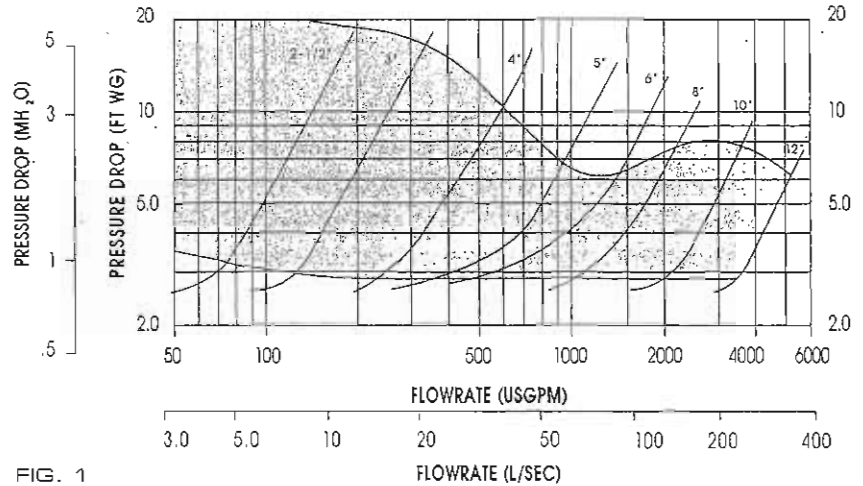

FIG. 1
- 4** On the Flo-Trex Performance Curve (Fig. 1) locate the differential pressure obtained in Step 2 and project line horizontally across to intercept with Valve Performance Curve. Drop a line vertically down to read the flow rate at the bottom of the chart.
- 1** From Flo-Trex Performance Curve (Fig. 1), a 4 in. valve with 5.4 ft. pressure drop (1.65m.) represents a flow of 400 USgpm (25.2 l/s).